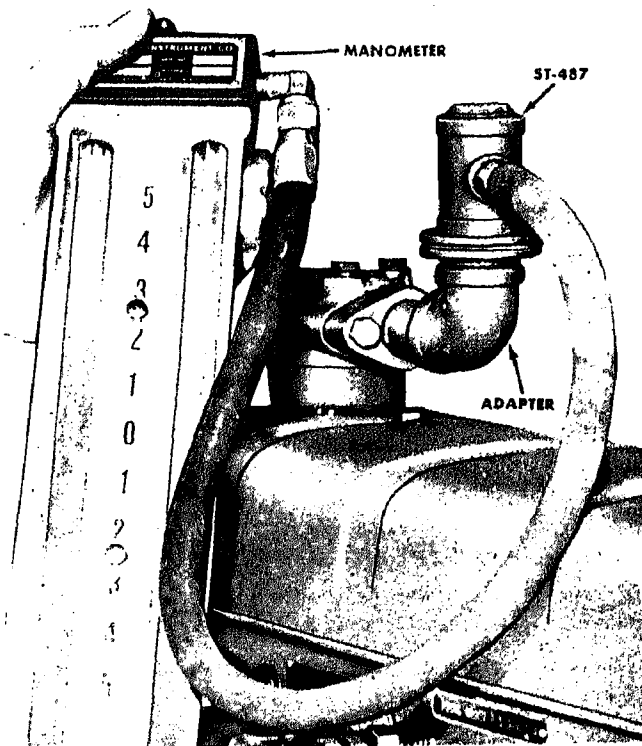

Fig. 14-2-4. Checking blow-by with ST-487
16. Install Blow-By Checking Tool to crankcase breather opening or special rocker cover with adapter. See Fig. 14-2-4.